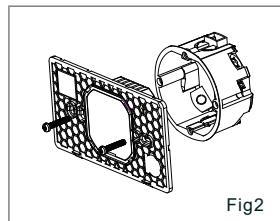

Fig2
Step 2 : Make sure that the wires are without electricity, connect the thermostat with the wires according to the wiring diagram, and then fix the mounting plate on the cassette with(Fig2).